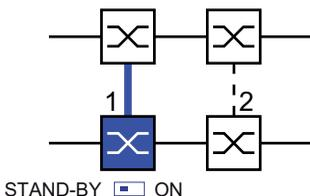

Figure 27: Two-Switch coupling
- Select "Two-Switch coupling" by means of the dialog button with the same graphic as below (see figure 27).